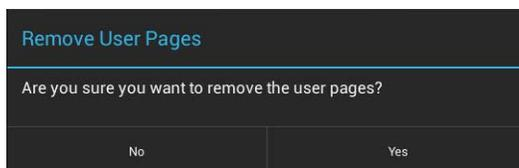

FIG. 29 Remove User Pages window
1. From the *Reset and Update* menu, select *Remove User Pages* to open the *Remove User Pages* window (FIG. 29).